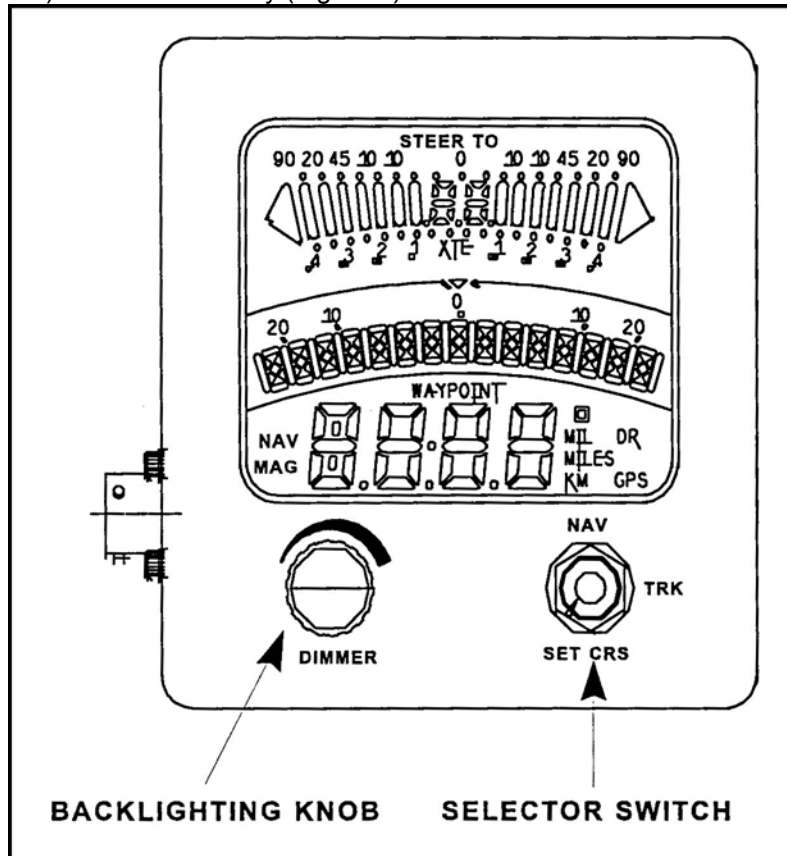

Figure 1. DCD display module assembly.
3. Ensure the (DCD) initializes correctly (Figure 1).